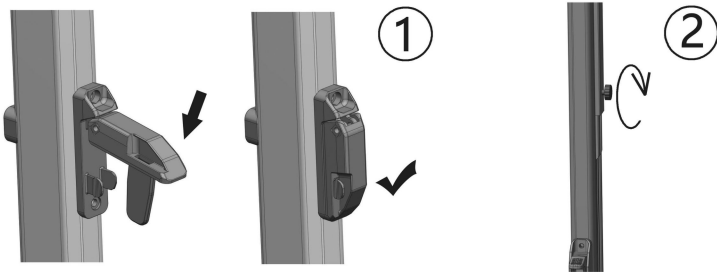

Figure D18
4.2.7 Press down on the travel lock in the middle of the support arm and tighten the screw of the inner rod. The awning has been closed. (Figure D18)